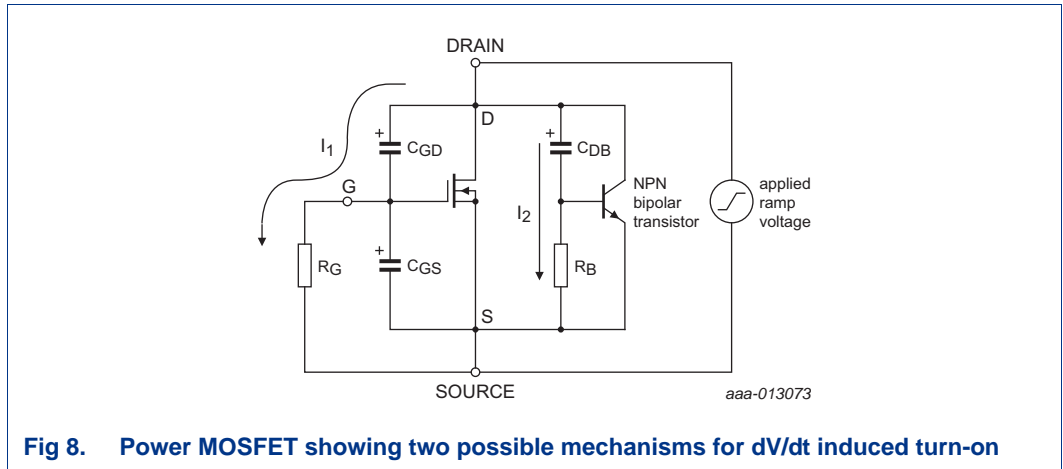

Fig 8. Power MOSFET showing two possible mechanisms for dV/dt induced turn-on
7.8 Q: Can NXP provide R_B, C_{DB}, V_{BE} saturation values in the parasitic BJT model, as shown in Figure 8?
A: These values are required to be able to calculate Equation 6. The aim is to obtain a dV/dt value to check if parasitic BJT turns on, leading to device failure. It is impossible to measure the characteristics of the parasitic bipolar transistor as its terminals cannot be accessed independently of the MOSFET terminals. A parasitic bipolar transistor is always created when a MOSFET is fabricated. Referring to Figure 8, it can be seen that there are two current paths which could cause MOSFET problems. Current I₁ flows via C_{GD} and depending on C_{GS} and R_G it can cause the MOSFET to switch on momentarily. It is often referred to as a gate glitch. Current I₂ flows via C_{DB} and R_B which can potentially switch on the parasitic BJT